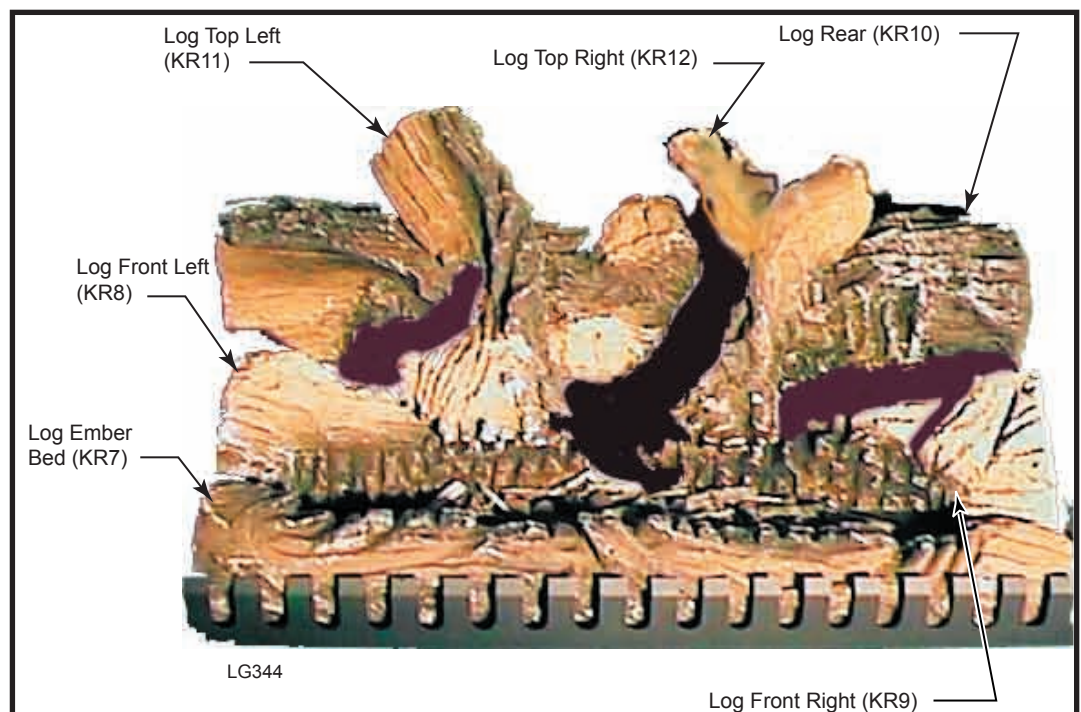

Fig. 28 Correct log placement for RFSDV34.
**For Model RFSDV34** (Refer to Fig. 28)